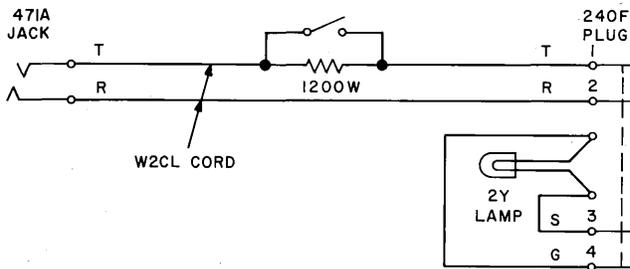

Fig. 1 — Test Cord For Test A
**2.01** 1011G handset (dial hand test set) or equivalent, equipped with a 2W39A cord assembly consisting of a W2CL cord with one 471A jack and one 240A plug modified as follows for use in observing message register operating pulses. (See Fig. 1.)